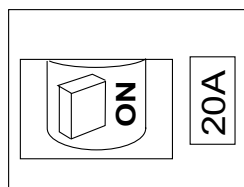

Figure 19. Main Circuit Breaker (ON)
- Place main circuit breaker (Figure 19) in the **ON** position.